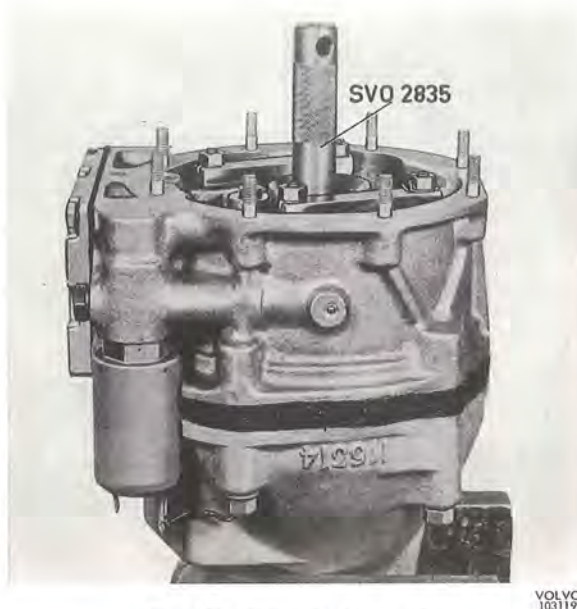

Fig. 4-57. Fitting the front casing
5. Install the brake ring on the front casing. Place the front casing on the rear one. Fit washers and nuts, see Fig. 4-57. Note that both the copper washers should be fitted on the upper bolts. Tighten the bolts a little at a time until they are tightened evenly all around.